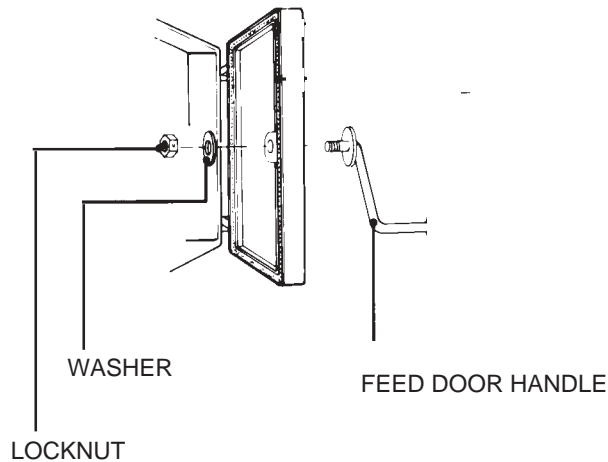
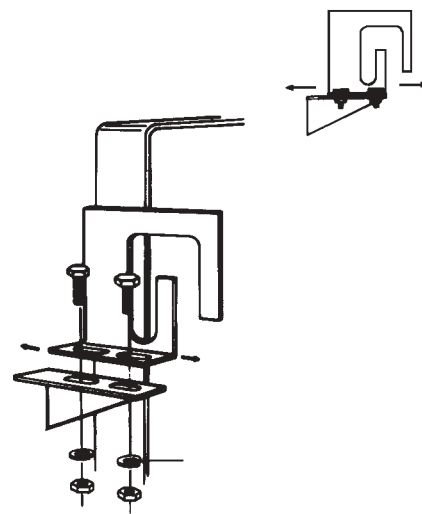

FIG. 8
FIG. 9
2. Assemble the feed door handle as shown in Figure 8. Install the latch as illustrated in Figure 9.